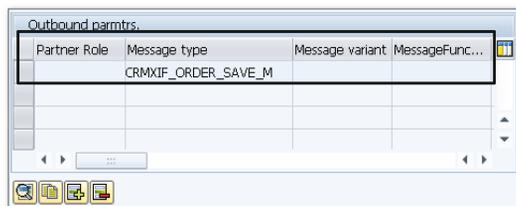

Figure 3.39 Outbound Parameters – Message Type CRMXIF_ORDER_SAVE_M
5. Create the partner profiles for the relevant systems via Transaction WE20. Here you assign the outbound parameters with CRMXIF_ORDER_SAVE_M, as shown in Figure 3.39.